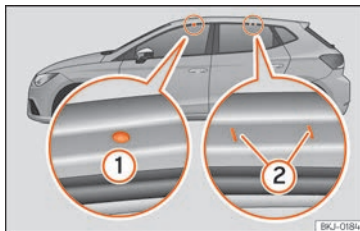

Fig. 131 Attachment points for the roof railings for the roof carrier system.
The front and rear attachment points ① and ② are only visible when the doors are open » **Fig. 131.**